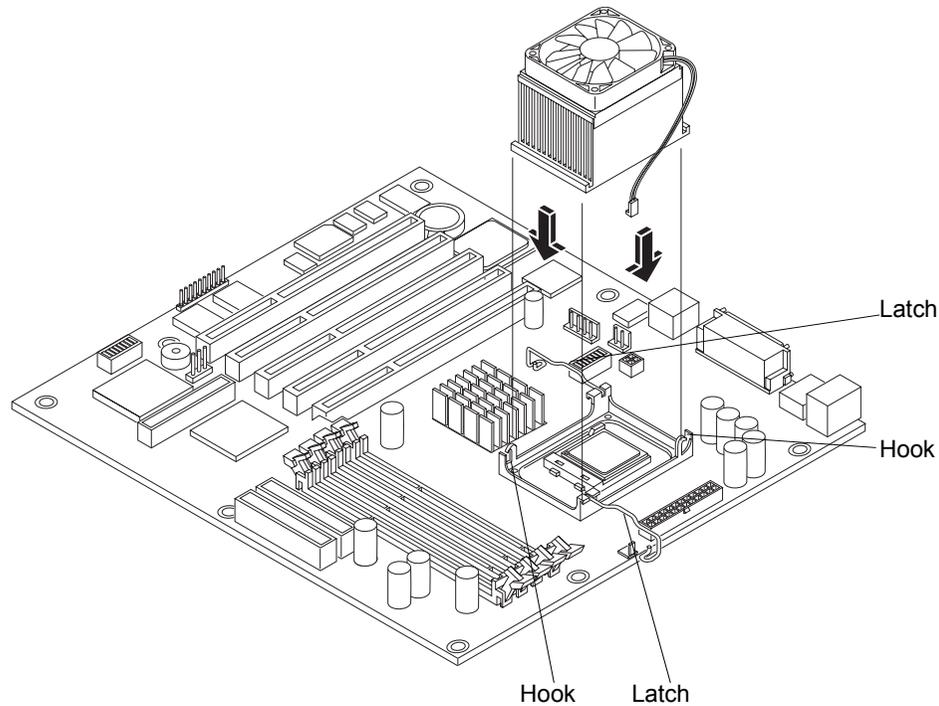

Figure 7-13. Replacing Heat Sink-Cooling Fan on the Processor
4. Hold the heat sink in place and close the latches to secure the heat sink to the bracket. Make sure the latches engage the hooks on the heat sink bracket. See *Figure 7-13*.